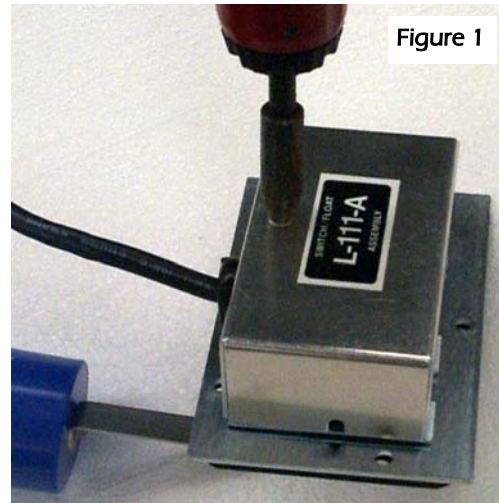

Figure 1
1. Remove the switch cover screw with the 1/4" nut driver. Remove and discard the aluminum switch cover and rubber grommet. (Figure 1) Note, older assemblies have cover screw located on the side of the switch.